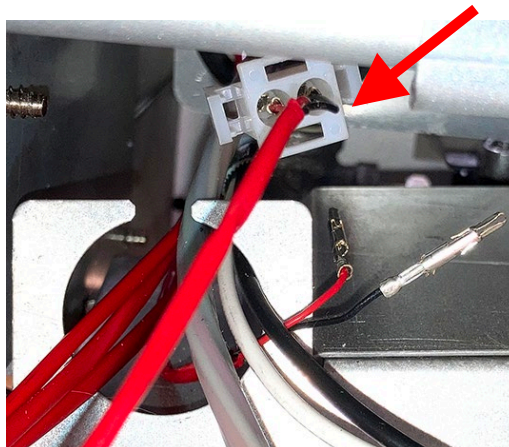

Figure 28
26. Route the 2-pin pan switch connector connected to pins 1 and 2 of the 15-pin connector, through the slot where the split Heyco bushing was removed, and through the large Heyco bushing in the upper left corner, above and behind the FIB box (see Figure 28).